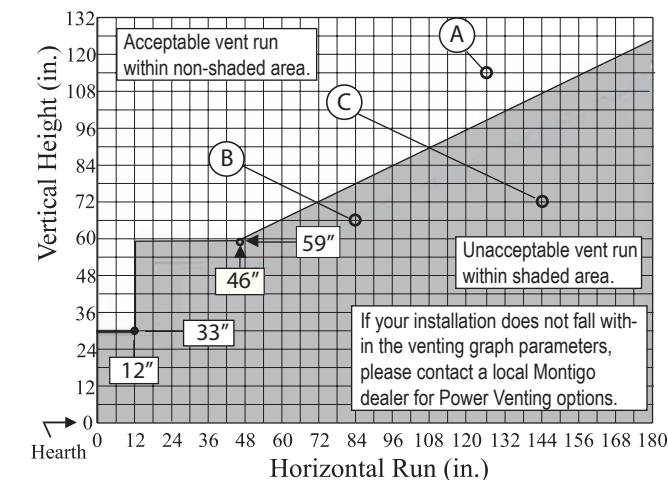

Figure 14. H38PR\* or HL38PR\* Rear Vent Venting Graph for wall mounted terminations.
- Venting runs *must* fall within the limits set by the venting graphs, see **Figure 14 or 14a**.
Measure the vertical height from the fireplace hearth to the centre of the termination and the horizontal run from the fireplace flue collar to the wall flange of the termination. Plot on the Venting Graph **Figure 14 or 14a** with an 'X'.
Figure 15. H38PR\* or HL38PR\* Straight run, Rear Vented, wall mounted termination. The vent run must comply with the Venting Graph for Rear vent, wall mounted terminations **Figure 14**. Note: HP38PR\* CANNOT be straight run, rear vented with a wall mounted termination.
**Figure 15a.** H38PR\* or HL38PR\* Rear Vented, wall mounted Multi-elbow termination installation. The vent run must comply with the Venting Graph for Rear vent, wall mounted terminations, Figure 14.